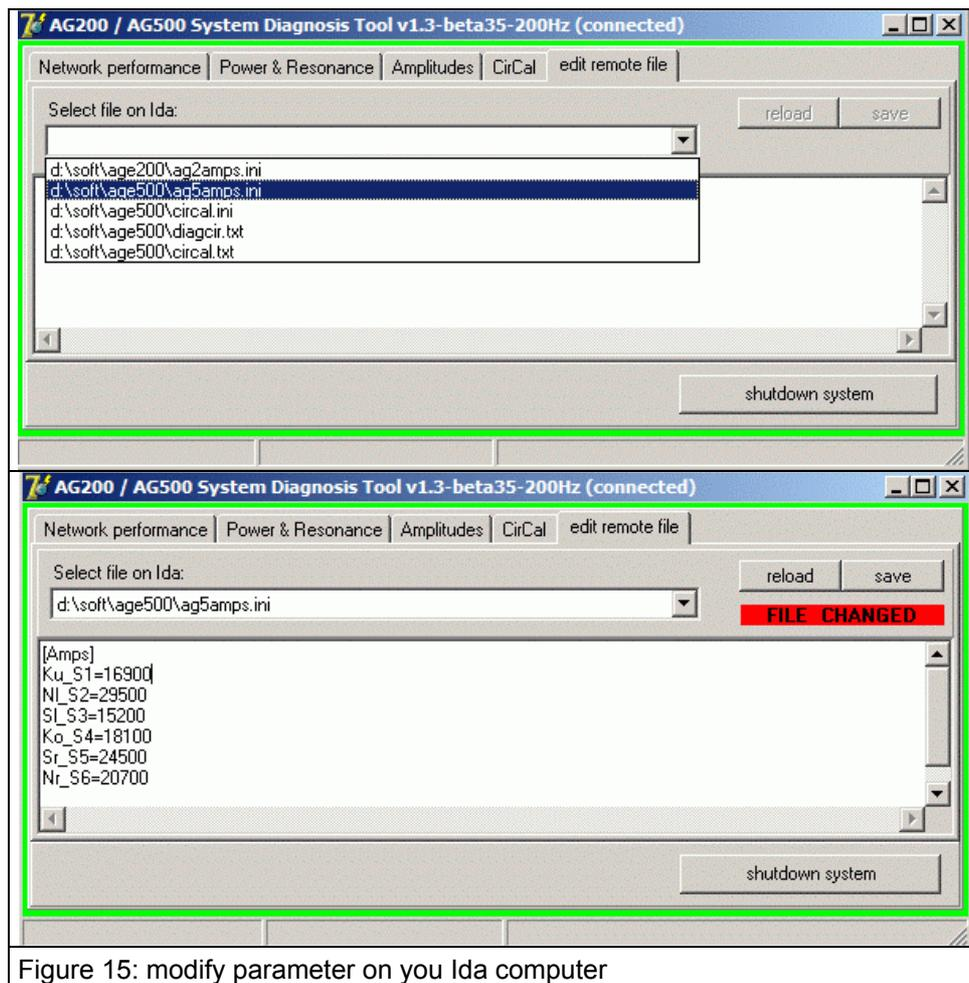

Figure 15: modify parameter on you Ida computer
- select the "ag5amps.ini" file as shown in Figure 15